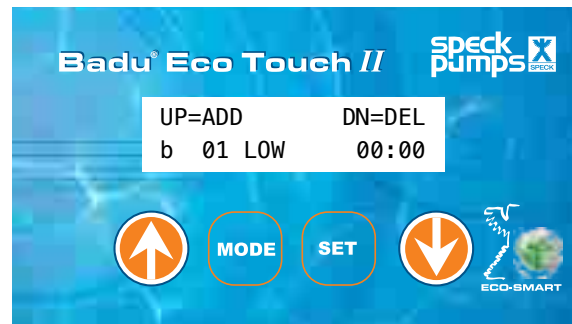

Figure 2A
- Press SET to add or delete the scheduled event/program. (See Figure 2A)